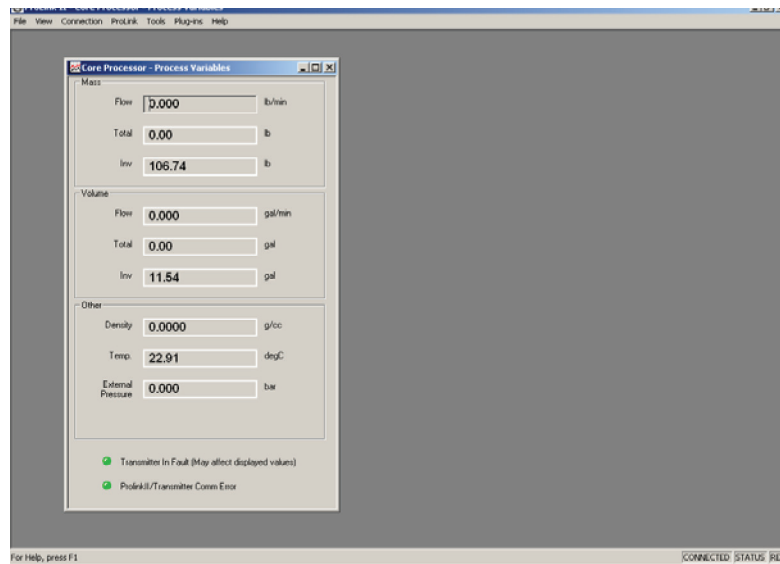

FIGURE 5.4
6. Power down the meter/E4000; wait 10 seconds, then power up again by starting the truck (the truck engine must be running from this point on). Within 3-8 seconds after powering up the meter, click on *Connect*, and the Process Variables (See Figure 5.4) screen should appear. If you receive the message "Modbus Server not found", you likely have not specified the correct Com Port, and if you receive the message "Failed to establish connection with the requested device", you either did not power the system down then back on again and click on *Connect* within 3-8 seconds, or there is a problem with the wiring connecting the computer to the puck. If the Process Variables window is displayed, and the *Transmitter in Fault* and *Prolink/Transmitter Com Error* lights are both green, you have successfully connected. Minimize the Process Variables window.